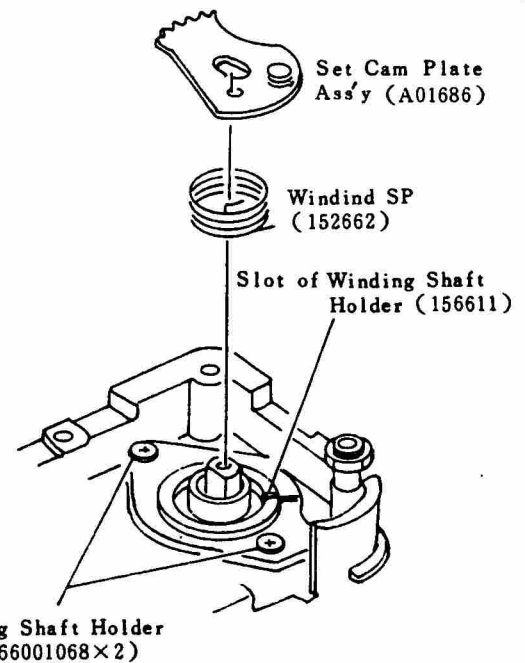

Fig 33
h) Set the Set Cam Plate Ass'y (A01686) as shown in (Fig 33) and push it in.